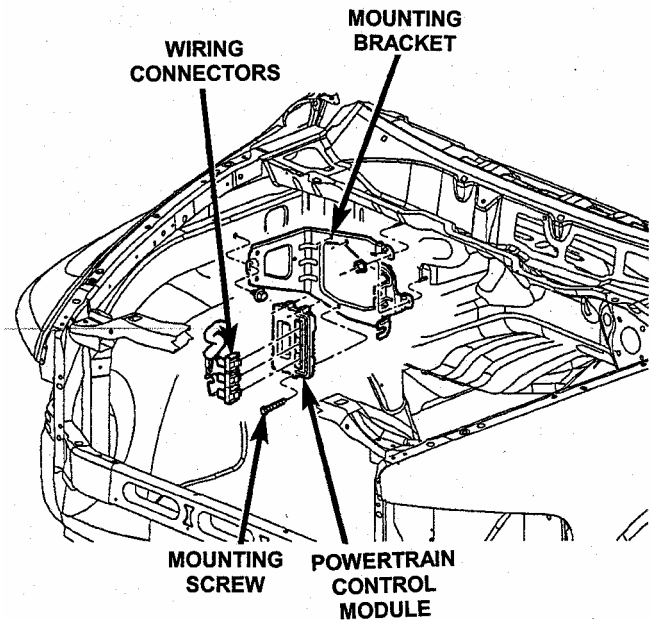

Figure 6
15. Remove the PCM mounting screws and remove the PCM (Figure 6).
16. Install the new PCM into position. Tighten the mounting screws to 35 in. lbs. (4 N·m) (Figure 6).